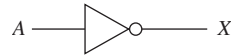

Figure P25
25. For Figure P25, write the Boolean equation at X . If $A = 1$, what is X ?